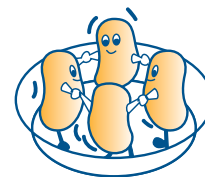

fig. 10
- 5) If you are cooking a number of portions of the same type of food (e.g. potatoes), arrange the portions **in a ring** around the outside of an ovenproof dish to ensure that they cook uniformly (see fig. 10).